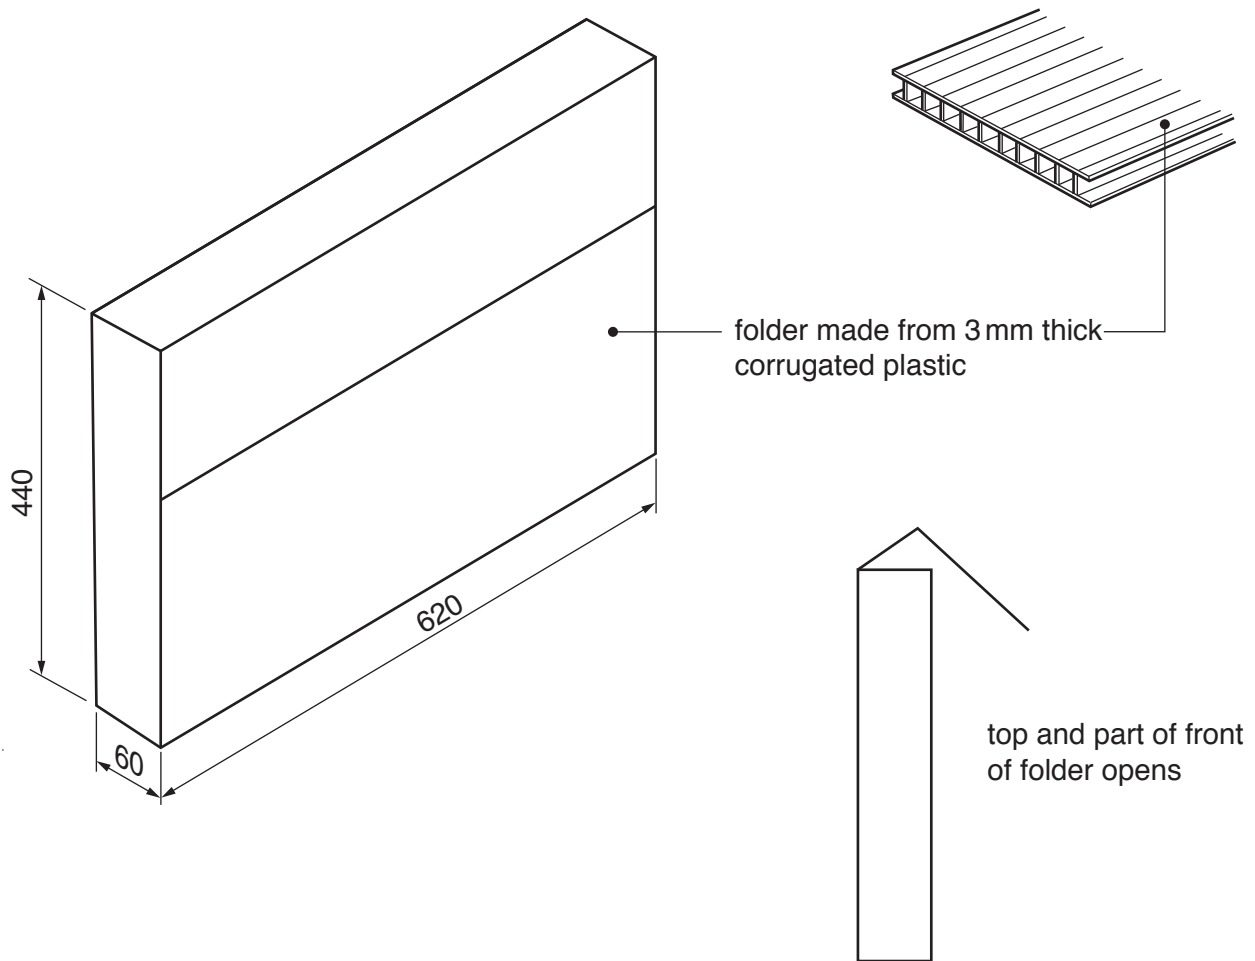

Fig. 8
- 8 Fig. 8 shows an incomplete idea for a folder to hold A2 sheets of paper. The folder will be made from thin corrugated plastic sheet.